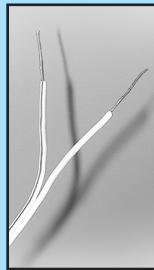

FIG. 3-6 Splitting and
- Splitting and stripping wire ends to be connected as shown (Fig. 3-6).
- Remove 1/2" insulation from each wire (Fig. 3-6)(pg. 19).